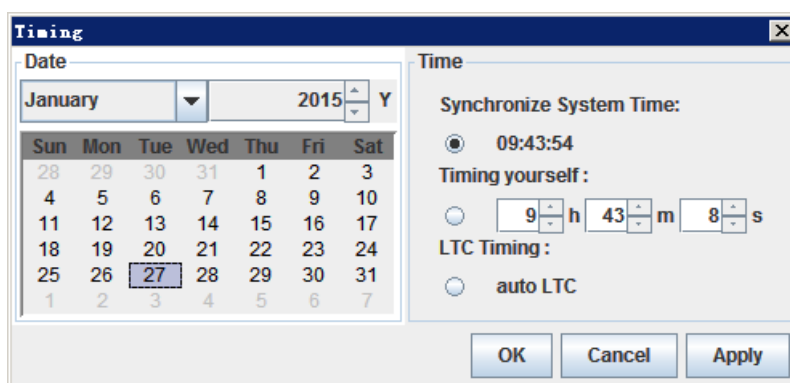

Figure 4.2-12 Timing Operation Window
(1) Connect a local computer through the Ethernet port (RJ45), using twisted-pair cables the IP address of the local computer and the AURORA1600 must be in the same network segment.
(2) Timing operation: click the manual timing button , it will pop up the timing window, select the Time method as **Synchronize System Time** to use the current time, or select as **Timing yourself** to a customized time, as shown in Figure 4.2-12, click the manual timing button to confirm timing with the local time.